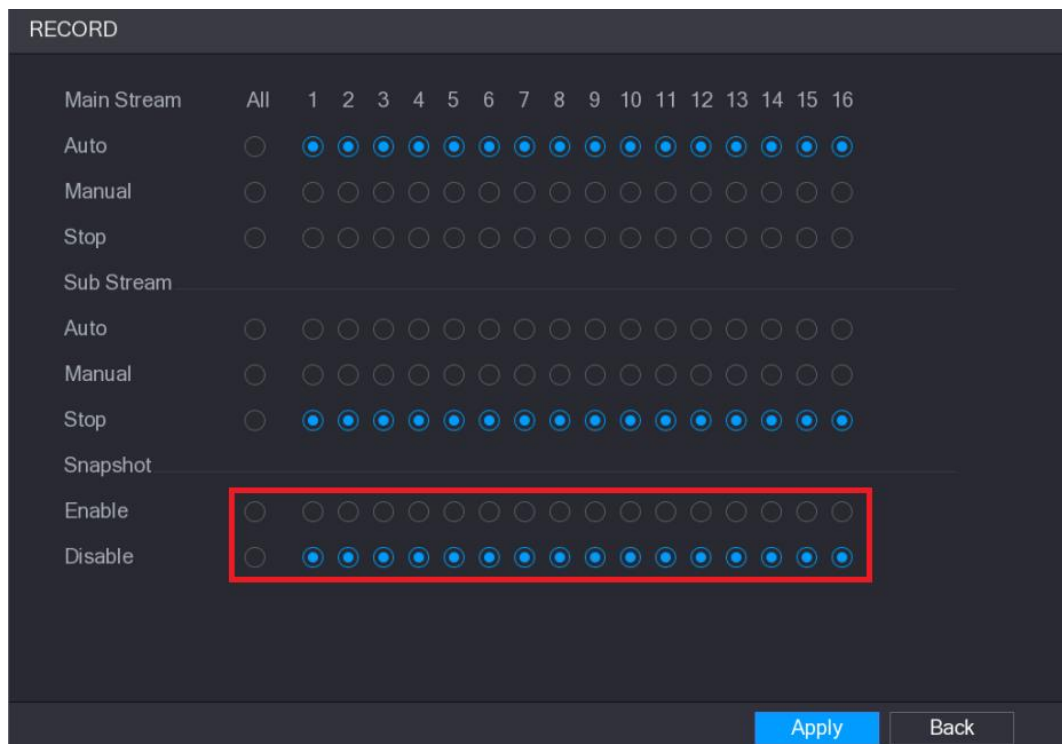

Figure 5-91
**Step 3** In the **Snapshot** area, enable the snapshot for the channels if needed. See Figure 5-91.